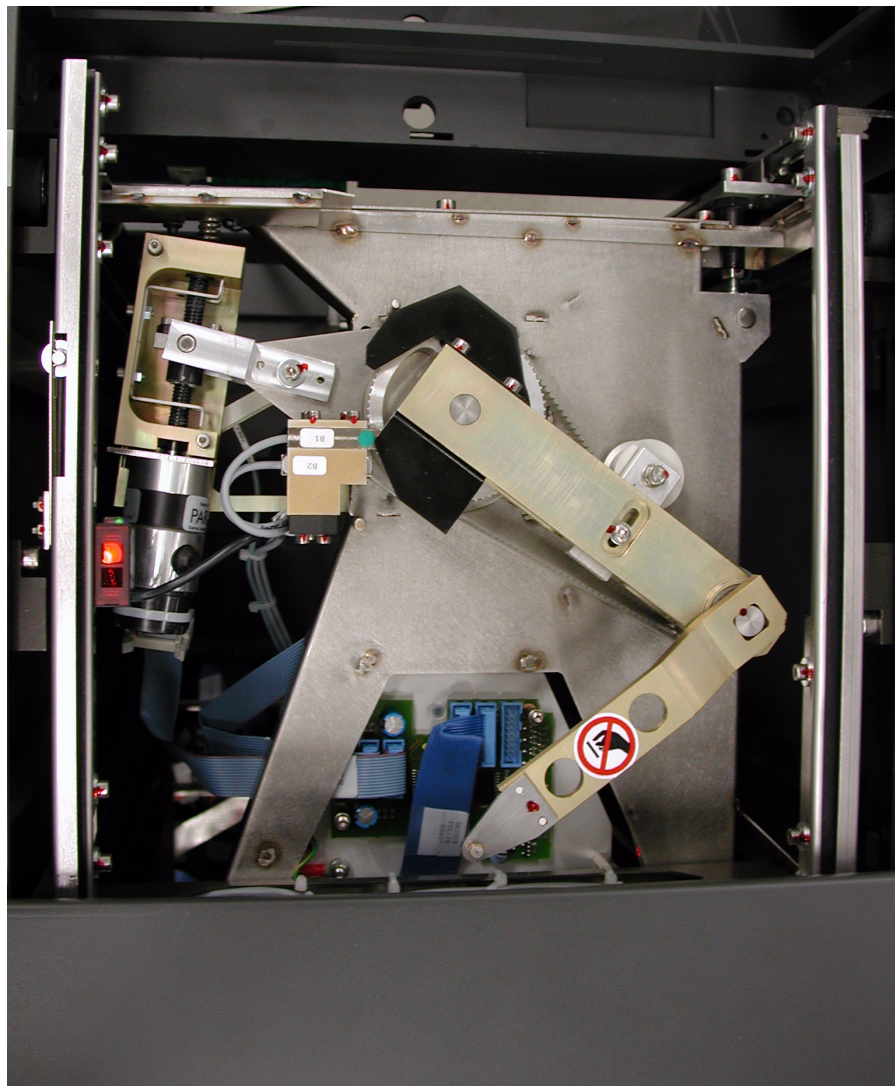

Figure 27 Lock spring adjustment
2. Measure the distance at 'D' (Figure 27) (to lock the carrier in the pick position the lock spring must be adjusted to 149.4 ± 0.2 mm from the inner side of the frame with respect to the centre of the lock spring).